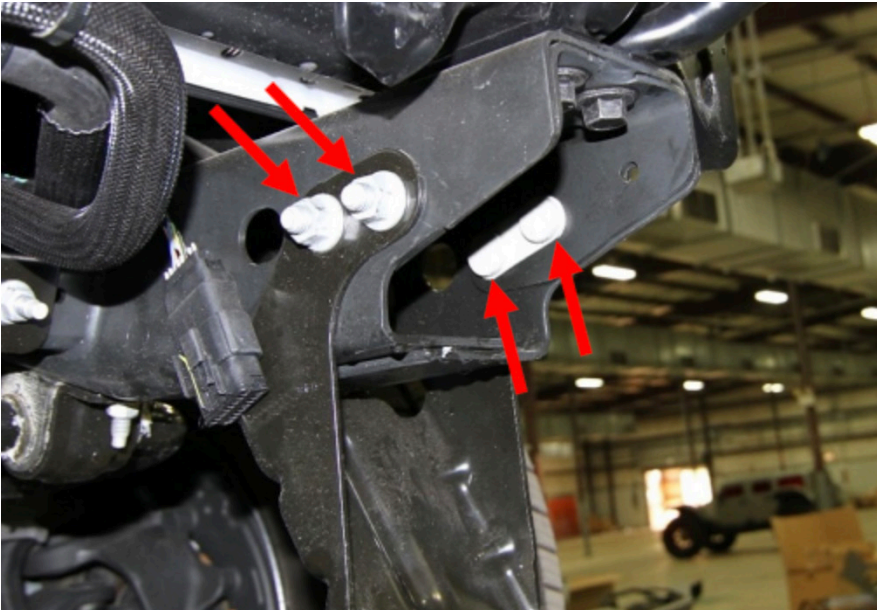

Figure 10
10. Using an 18mm socket wrench, remove the eight (8) nuts attaching the underrun guards to the bottom of each frame rail. Figure 10